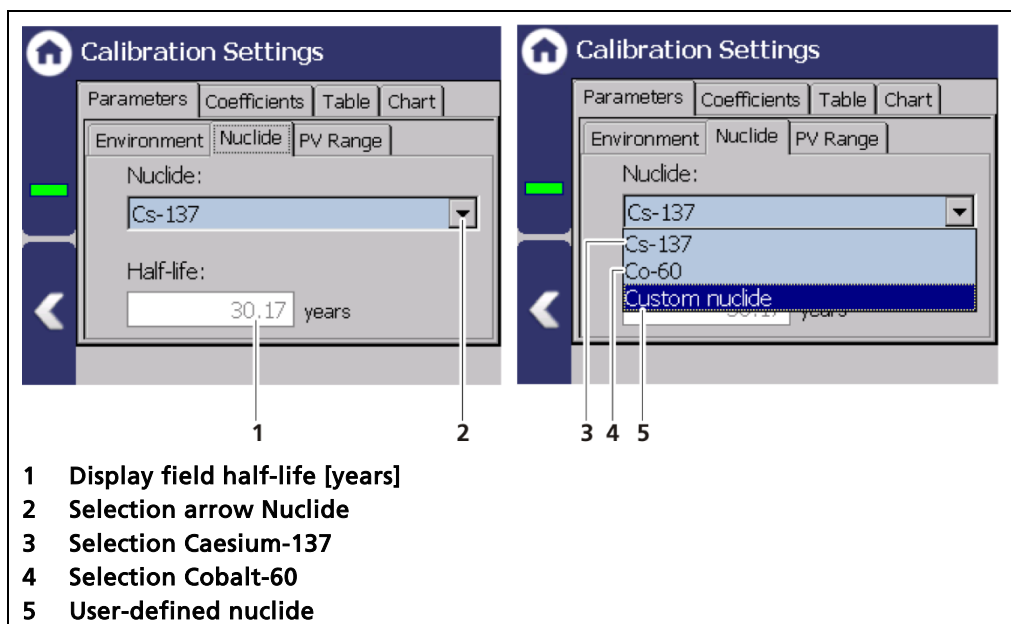
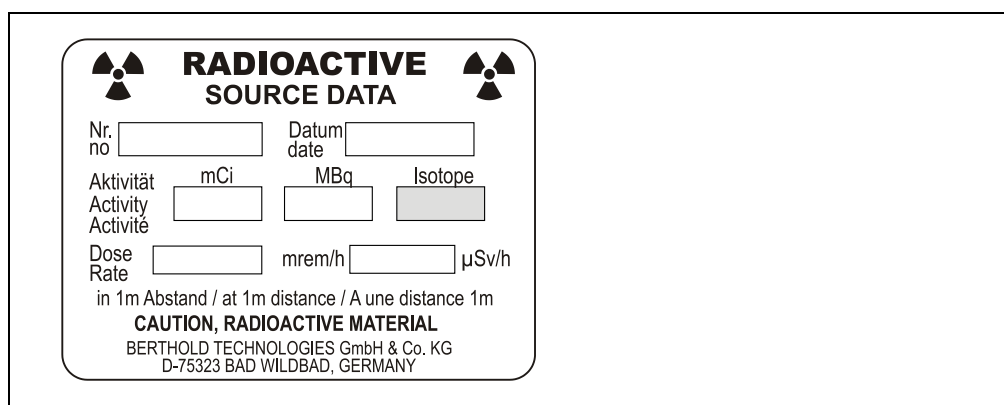

Fig. 86 Calibration settings: Nuclide
Fig. 87 Type plate source
- Tare measurement by time stipulation (Fig. 86, item 1)
- Tare measurement by belt length stipulation (Fig. 86, item 2)
3. Click on the button <Start> (Fig. 86, item 3) to start the tare measurement.
The isotope used can be selected in the "Nuclide" tab. The half-life of the isotope is shown on the display field (Fig. 86, item 1).
1. Click on the selection arrow (Fig. 86, item 2).
2. Select the isotope used Cs-137 (Fig. 86, item 3) or Co-60 (Fig. 86, item 4). The isotope of the source is on the type plate of the screen (Fig. 87).
3. When selecting "Custom nuclide" (Fig. 86, item 5), the half-life of the isotope must be entered.